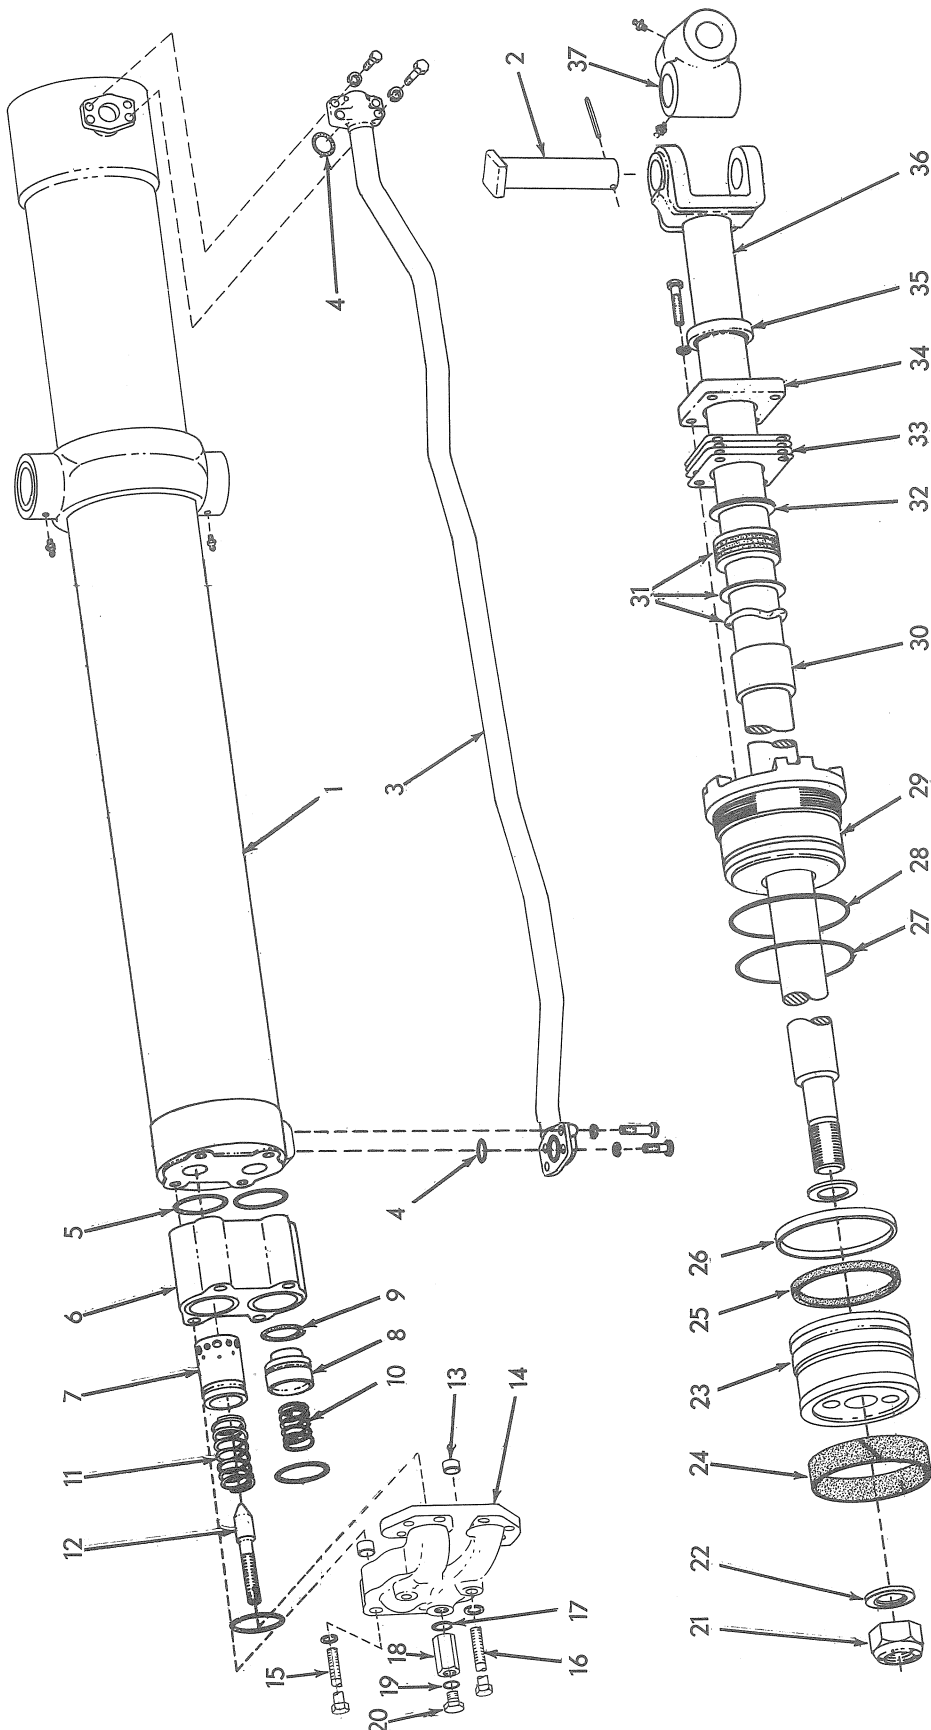

FIG. 25 DOZER CYLINDER.
Loosen end plate, Fig. 25 (34), then loosen (do not remove) cylinder head (29). Disconnect piston rod from moldboard (be sure to block the cylinder, or secure it with the shipping bracket). Unscrew cylinder head and remove the rod assembly (a large amount of oil will be present).
Remove the wiper seal, Fig. 25 (35), from end plate and clean the bore.
Remove and discard the seal rings, Fig. 25, (25 and 26) and wear ring (24) from piston.
Measure I. D. of bushing, Fig. 25 (30); if I. D. is 2.516" (63.9 mm) or more, replace bushing.
LEGEND FOR FIG. 25
Install O-ring, Fig. 25 (27), and back-up ring (28) on cylinder head.
Install rubber seal ring, Fig. 28 (2), in narrow groove in position. The Teflon ring may be difficult to install. To make it more pliable, twist ring with hands as shown in Fig. 27, then install Teflon ring over rubber ring as shown in Fig. 28; in a few minutes Teflon ring will be back to its original shape. Install wear ring, Fig. 25 (24) in groove in position.
Install piston assembly on piston rod. Install spacer, Fig.25 (22), and nut (21). Tighten nut to a torque of 1100 -- 1200 lbs.ft.(152.1 -- 165.9 kg-m).
The quick-drop valves are located in the upper end of each dozer cylinder. Refer to Fig. 25 for correct valve placement.
Valve head securing capscrews, Fig. 25 (15 and 16), must be tightened to a torque of 75 lbs. ft. (10.4 kg-m) and the adjustment valve in each dozer cylinder must be adjusted to the same dimension so that each cylinder will react at the same time.